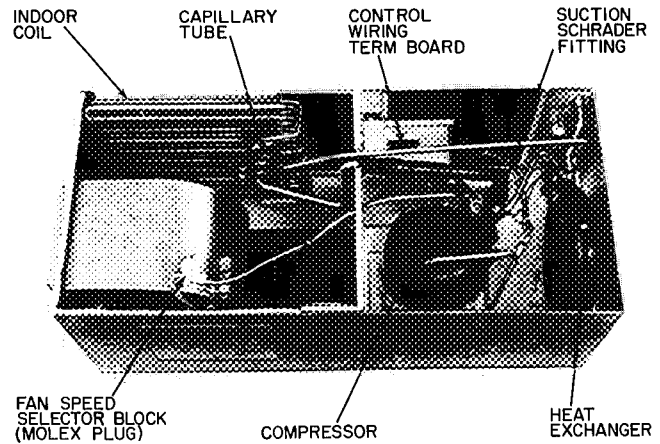
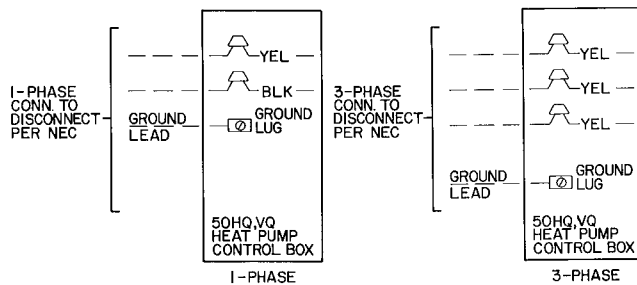

Fig. 7 — Typical Component Arrangement (50HQ014-042 Shown)
Fig. 6 — Line Power Connections
BRING POWER LEADS INTO UNIT — Extend leads from disconnect per NEC thru hole provided (Fig. 1 and 2) into line wiring splice box, Fig. 6.
CONNECT GROUND LEAD TO GROUND LUG IN SPLICE BOX for safety. Connect power wiring. See Fig. 6. Splice line power leads to yellow and black pigtailed on single-phase units or yellow pigtailed on 3-phase units. Use wire nuts. Tape each connection.
2. Locate Molex fan speed selector block on fan housing, Fig. 7. Selector block receptacle 1 is high fan speed, receptacle 2 is medium fan speed and receptacle 3 is low fan speed. Yellow and black fan motor power leads from control box are connected to selector block receptacle C and 1. Yellow lead is common, black lead is speed-change lead.
— Power leads are brought thru 1/2-in. hole provided in unit, Fig. 1 and 2. Extend leads to control wiring terminal board located on top of control box, Fig. 7. Connect leads to terminal board as shown in Fig. 6.